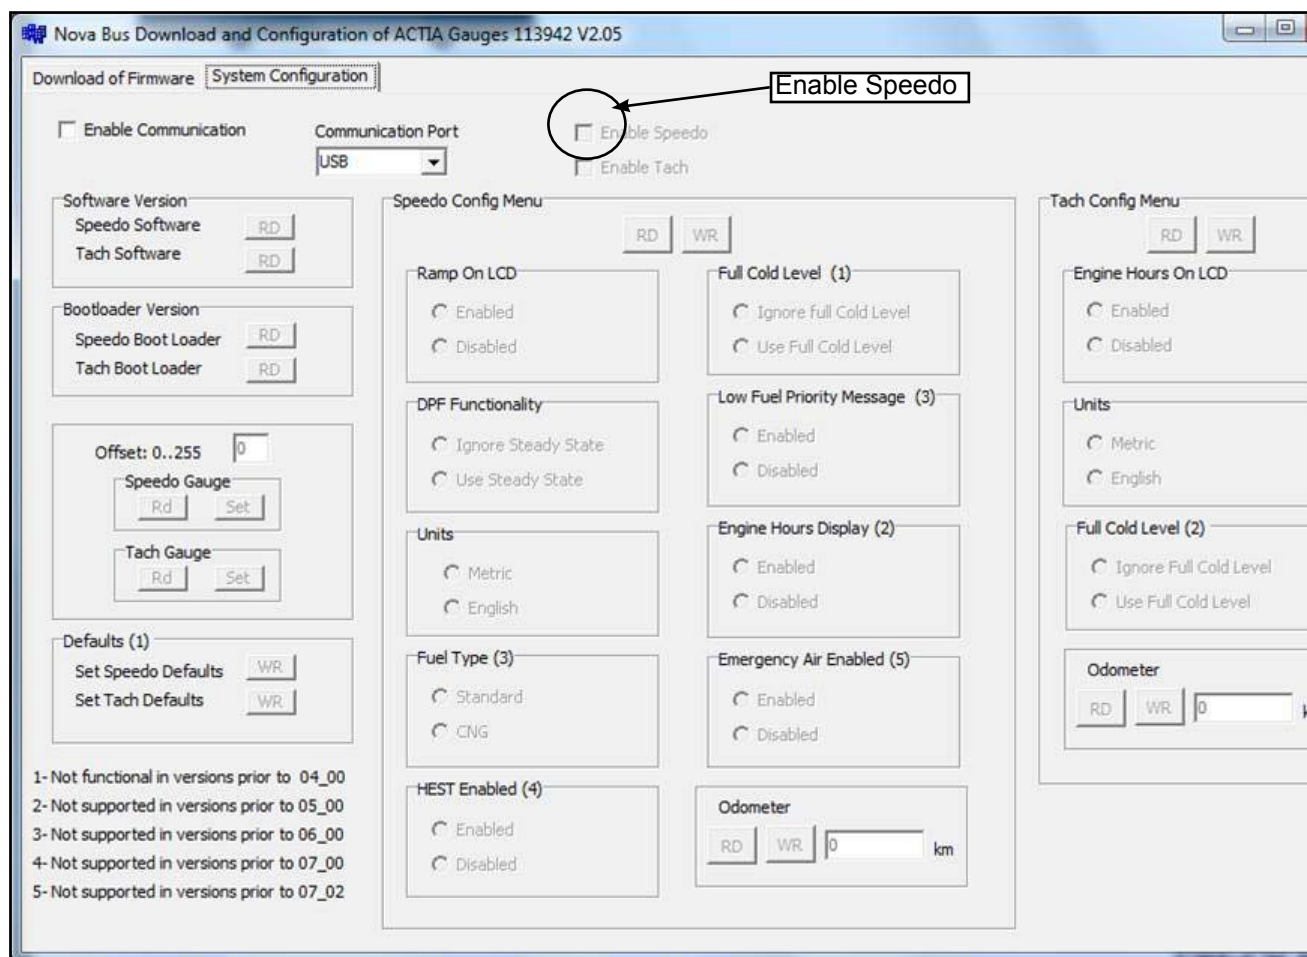

Figure 18 - Enable Speedometer
3.1.13 Check the Enable Speedo box (see Figure 18).